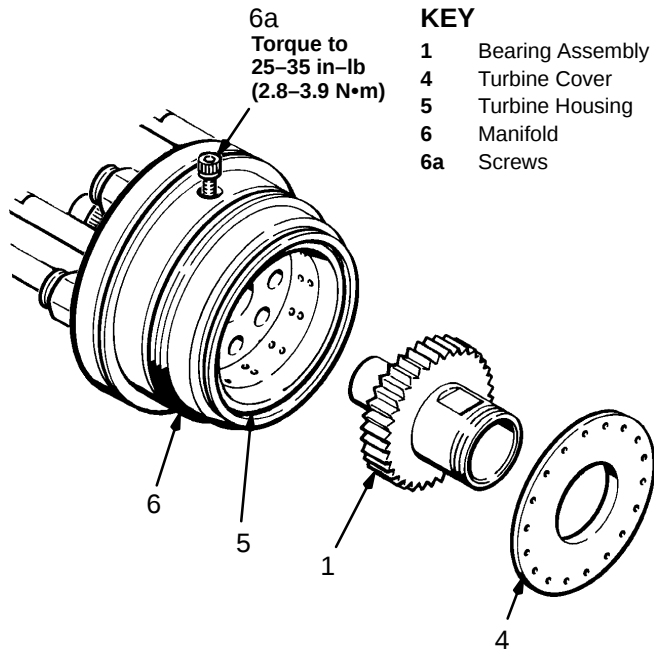

Fig 13
2. Loosen **COMPLETELY** the three screws (6a) in the manifold (6), using the 4 mm ball driver (23a). Refer to Fig 13.